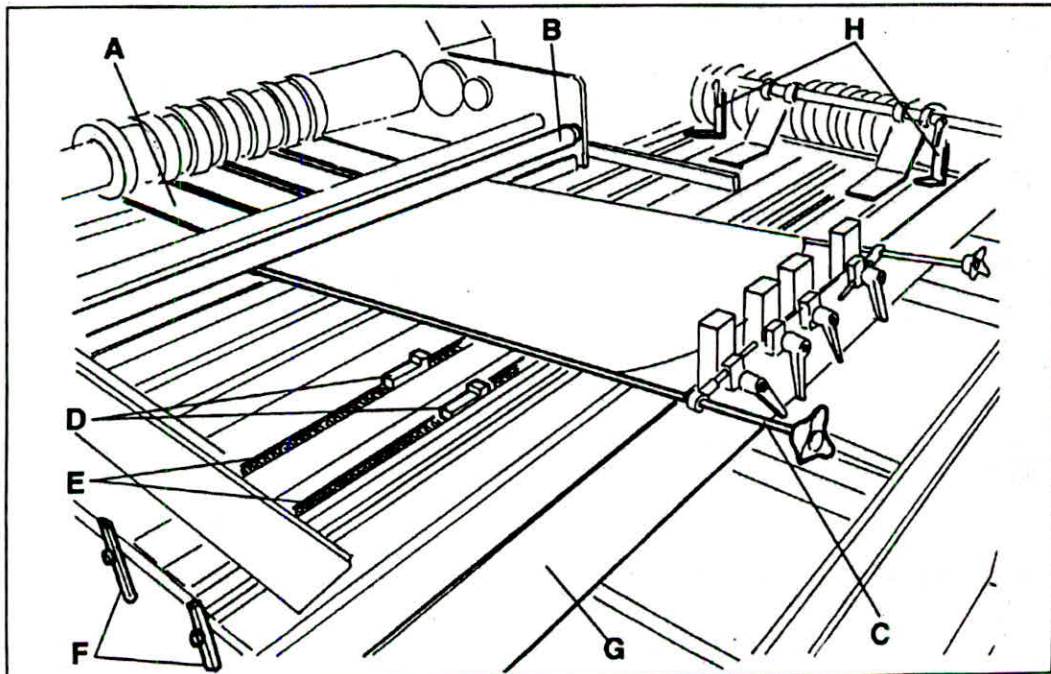

Fig. 24 Setting the fixed bar
1. Set the stainless steel strip support plates (Pos. A Fig. 24) so that the two side plates are parallel to the outer cuts; space equally the rest of the plates. If a sheet is cut in the centre set one plate in the centre.
3. Fit the scrap tools onto the stainless steel plates (Pos. A Fig. 24)
4. Fix the support sheet bars (Pos. C Fig. 24) in line with the cuts on the first slitter peration (Draw S for three strips, Draw K for a half cut sheet and Draw U for a whole sheet).
6. Remove or fit the feed dogs (Pos. D Fig. 24) spaced out according to Table 2
7. Set the conveyor chains (Pos. E Fig. 24) in the centre of a sheet ; space the chains one from another minimum 12 cm. / maximum 50 cm..